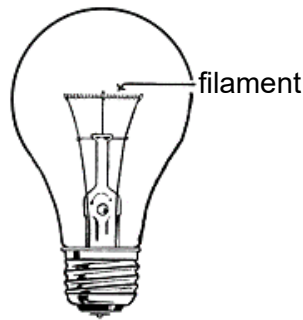

Fig. 4.1
- 4 A filament lamp contains a thin coil of tungsten wire called the filament as shown in Fig. 4.1. This heats up when an electric current passes through it, and produces light as a result.